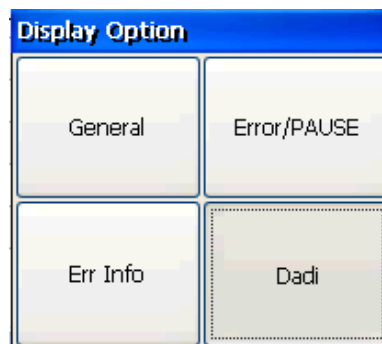

Figure 5.10.2 Traffic Test-Display
1. **[Display]**: to control the list items, including : “**General**”, “**Error/PAUSE**”, “**Err Info**”, “**Dadi**”, etc. as is shown in figure 5.10.2.